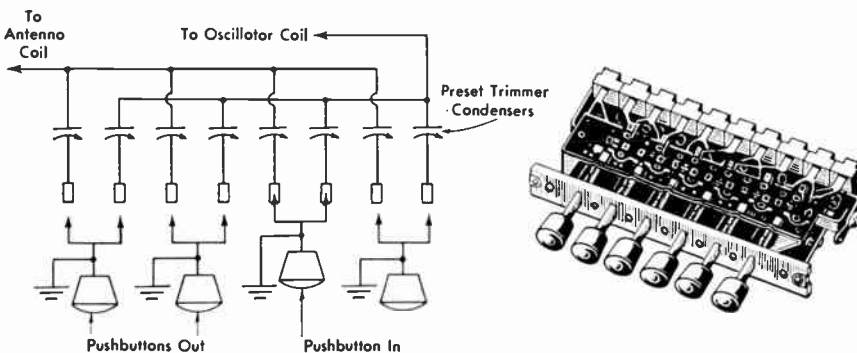

Fig. 7. Circuit and example of electrical automatic pushbutton tuning system
**Electrical Pushbutton Tuning.** In this system, each pushbutton usually operates switches that insert preadjusted trimmer condensers in the two tuned circuits of the receiver, as in Fig. 7. The switching is usually done